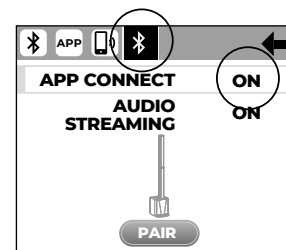

Fig.4
1. Push backwards element **B** to release it from the stand (Fig.4)
## 5.3 | BLUETOOTH® MENU SCREEN (Fig.4)